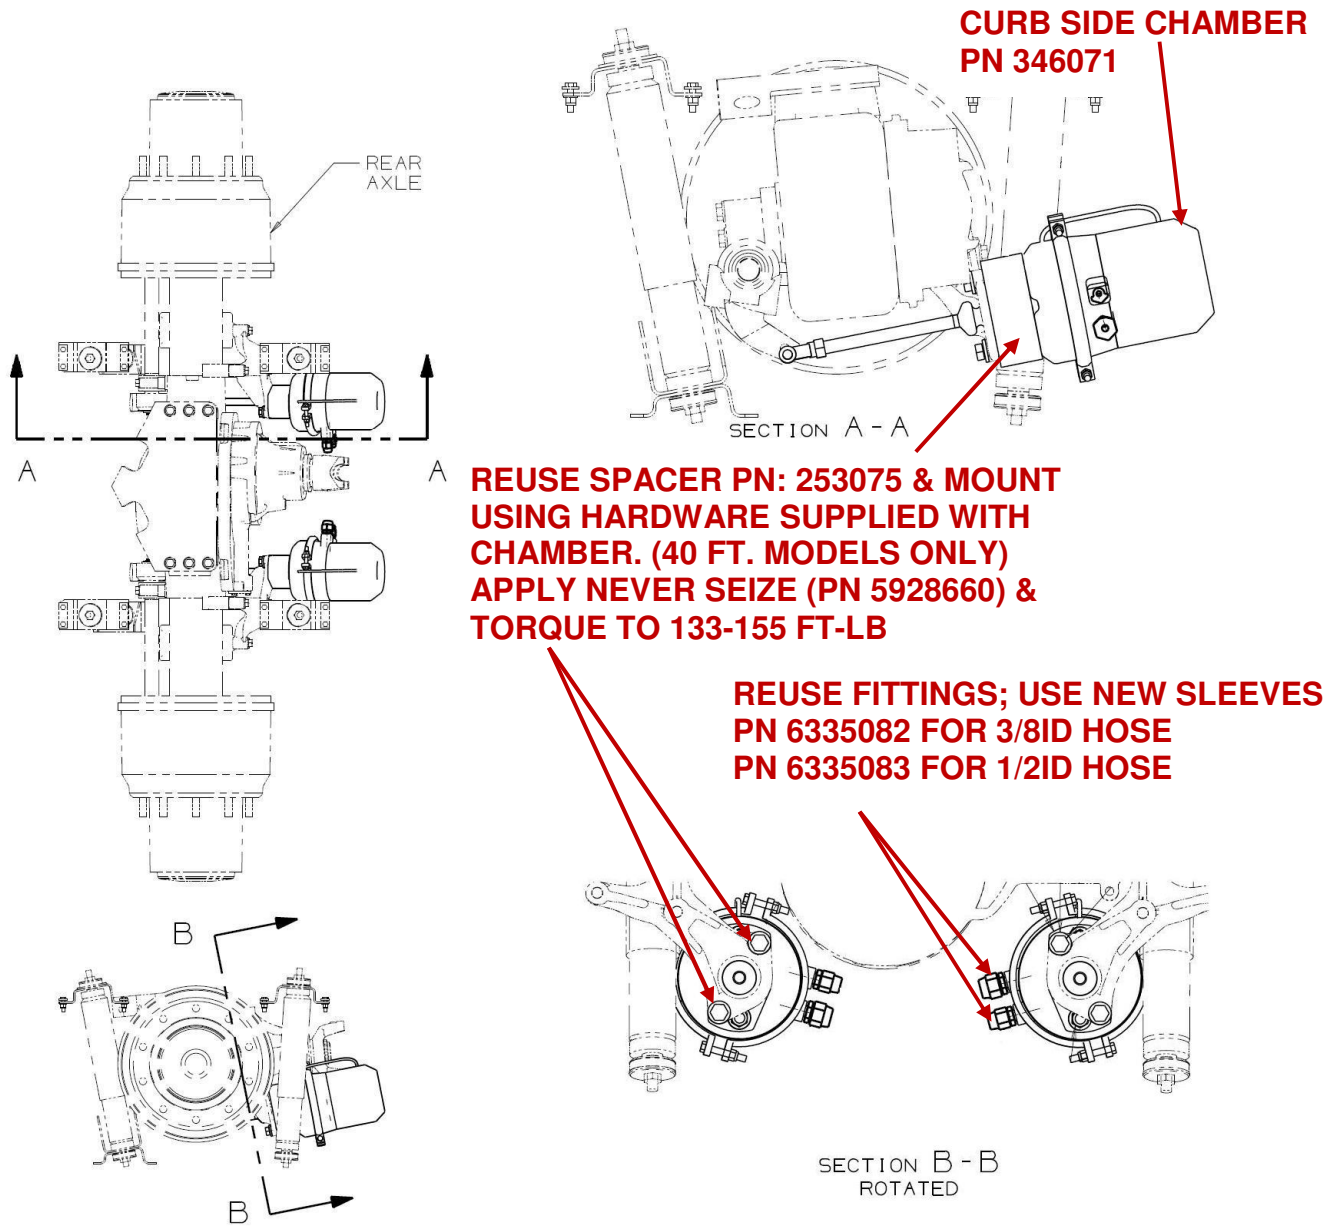

FIGURE 4: REAR AXLE BRAKE CHAMBER INSTALLATION
6. Use the following procedure to remove and replace the brake chambers, See Figure 4: